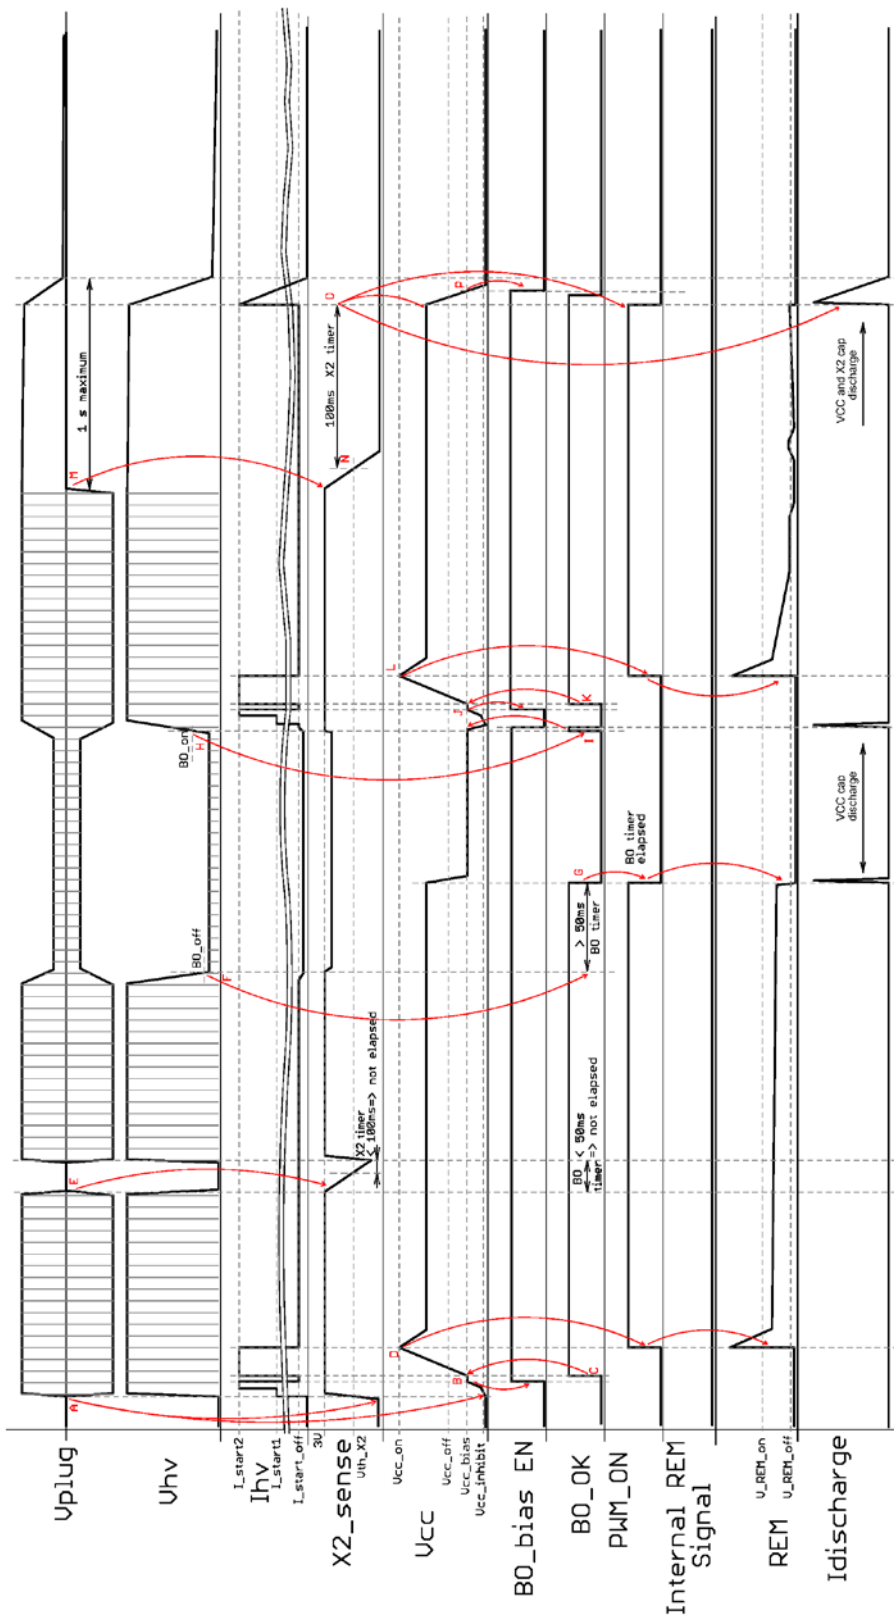

Figure 52. IC Operation Sequencing – Case 2 (Active OFF)
2. *Application start, AC line dropout, low line off, BO restart, AC line off – Figure 52:*